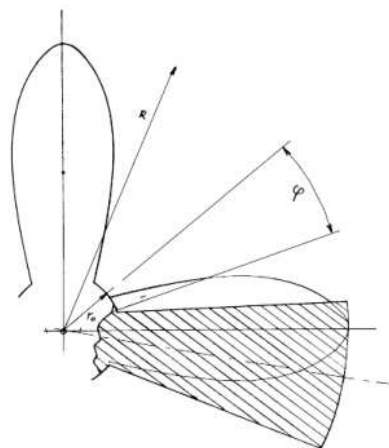
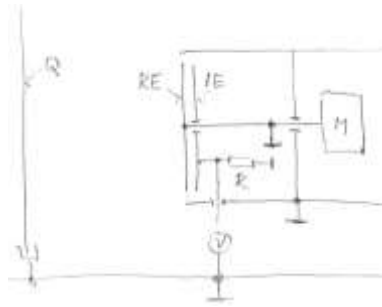

Fig. 1 Shape of the electrodes
Fig. 2 Schematic representation of the field mill voltmeter
These fields are measurable by use of electrostatic voltmeters. One of them is the electrostatic voltmeter known as field mill. It is created from insulated asterisk's shaped electrode, fig. 1 and rotating asterisk shaped grounded electrode. If this voltmeter is in the electrical field, then the opposite electrical charge is induced at the insulated electrode. The charge is drained to the ground over a resistor R, fig. 2. When the insulated electrode is hidden behind rotating grounded electrode, then the field is interrupted. This situation is periodically repeated and we can read out alternating voltage from the resistor. Its amplitude is proportional to the intensity of measured electric field. The waveform of the signal from the voltmeter is given by the shape of both electrodes. If the shape of the electrode is given by equation (1), (the polar coordinate system is used,  $N$  is a number of leafs, other parameters are described in figure 1), then the output is sine wave signal. The schematic drawing of the set-up is illustrated in fig. 2.